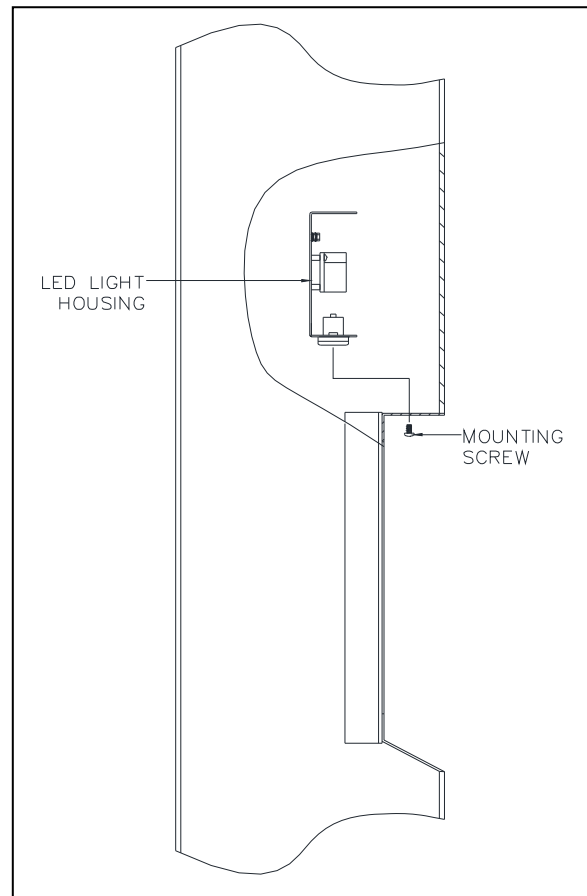

Figure 9 Panel Light Assembly
1. Align the panel light assembly inside the tower (see Figure 9).